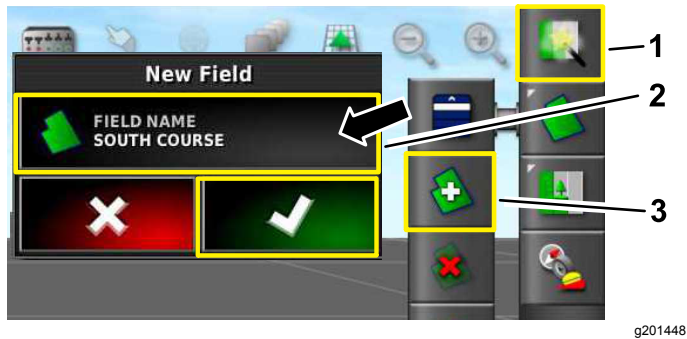

Figure 3
2. Select the field name, name the field, and confirm (Figure 3).